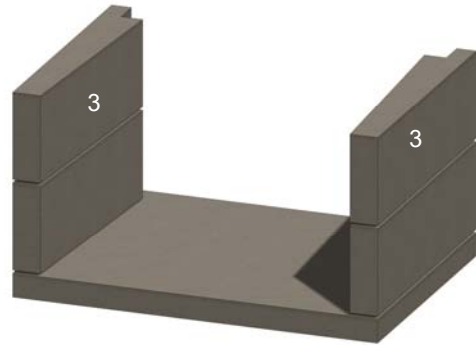

Figure 10. Upper Sidewalls
D. Install the upper sidewalls (3), ensuring they are level and square. See Figure 10.